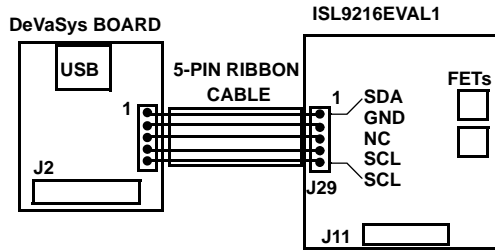

FIGURE 6. I²C CONNECTION TO ISL9216 PCB
If using a string of resistors to emulate the battery cells, then use the connection shown in Figure 3 and Figure 6. In this case, limit the supply voltages so that the resistor divider
- Connect the I²C communication cable from the interface board to the ISL9216EVAL1 as shown in Figure 6.